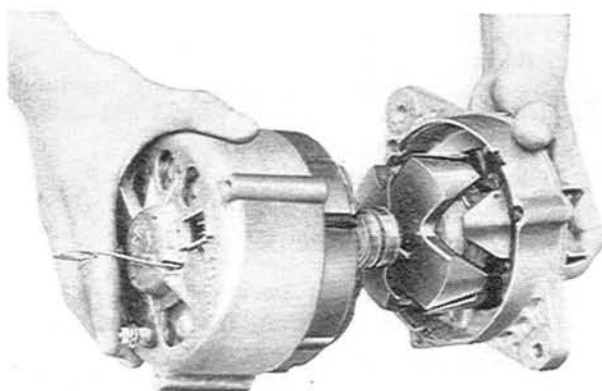

Fig. 5-14 Installing of rotor assembly
1. When installing the rotor assembly to the rear housing and stator assembly, hold the brushes in position by inserting a piece of stiff wire into the hole of the brush through the rear housing as shown in Fig. 5-14.